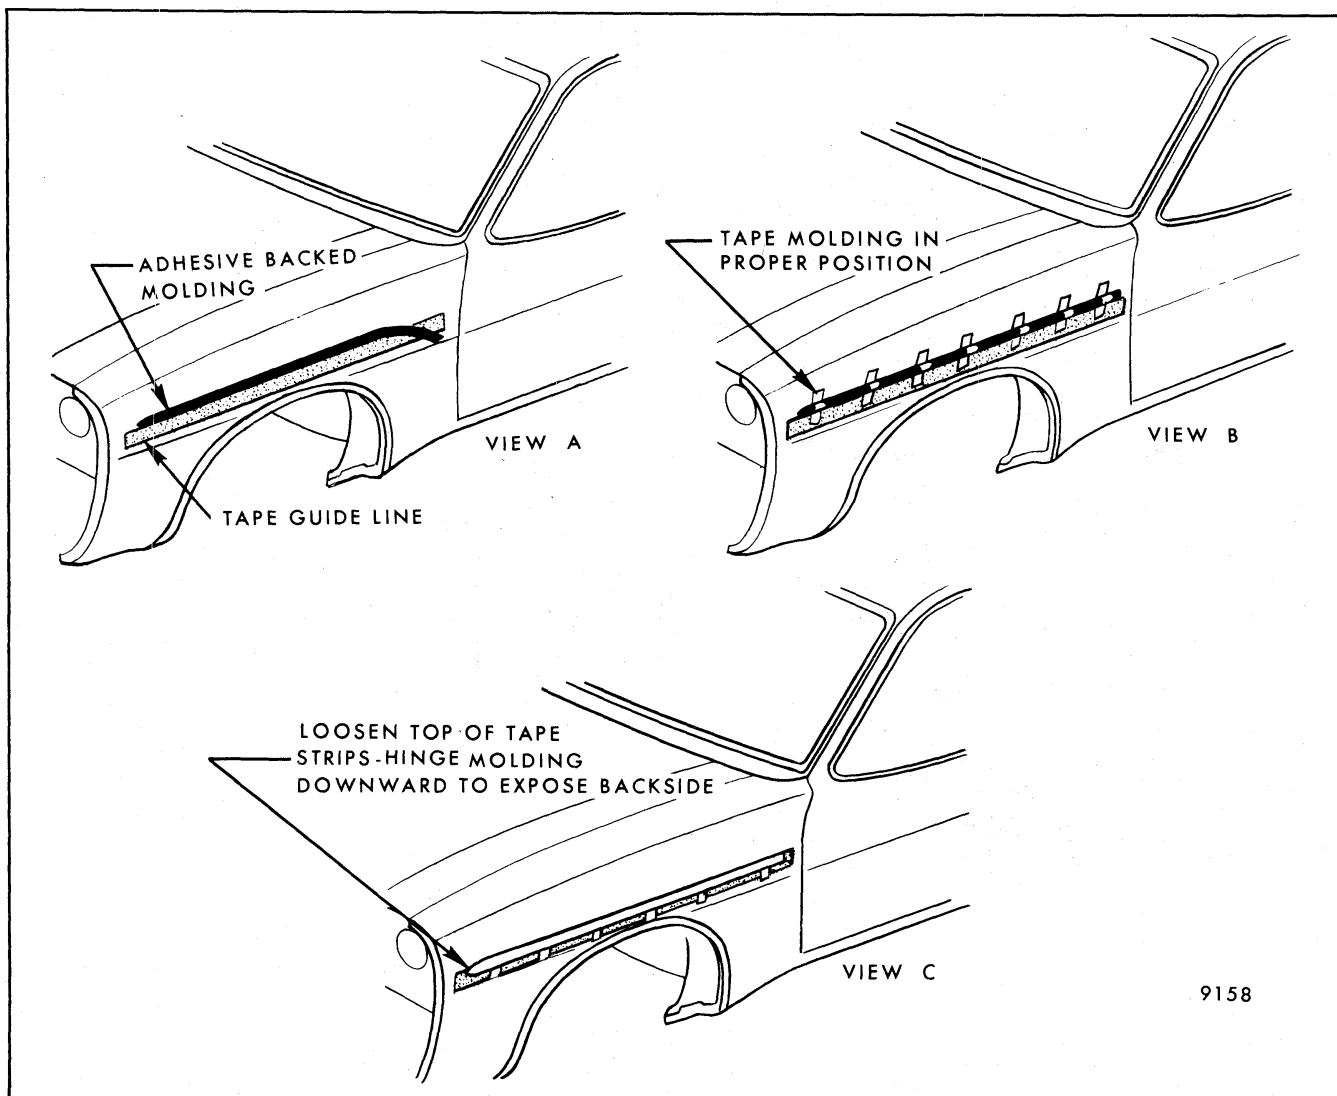

Fig. 4-30-Adhesive-backed Molding Installation
2. Mark proper alignment position with a length of cloth body tape (Fig. 4-30). Use adjacent moldings as a guide if applicable.
4. Hold molding in its proper position with strips of cloth or masking tape (Fig. 4-30) every 6 to 8 inches. If shop temperature is below 70 degrees F, warm the body panel immediately prior to adhesive application with a heat lamp or heat gun, while proceeding to step 5.
5. Loosen top of tape strips (Fig. 4-30) holding molding in position. Hinge molding downward to gain access to back of molding. Using a circular pattern, quickly apply a thin even film of 3M Super Weatherstrip Adhesive or equivalent, to the adhesive portion of the molding.